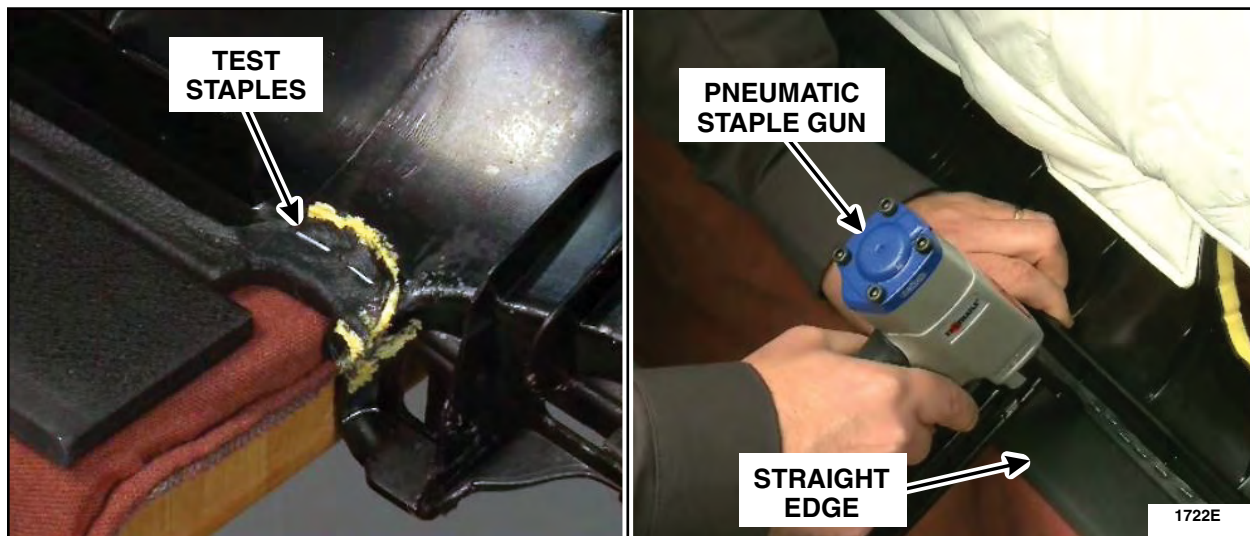

FIGURE 3
- a. Place a couple of test staples at the end of the door trim panel in the area of the mirror sail and adjust air pressure as needed so the staple does not go through the fabric and sits flush. See Figure 3.
- b. Starting from the center and working outward, place staples approximately 1/4" (6 mm) apart. See Figure 3.